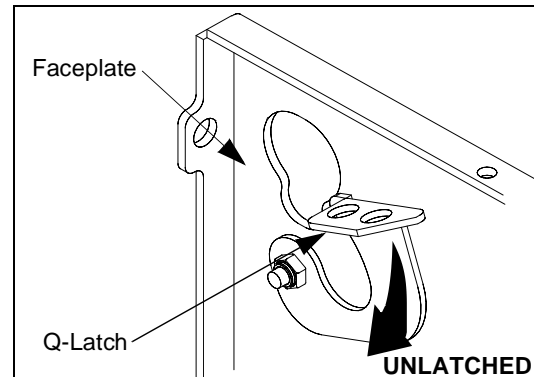

Figure 3: Q-Latch (Unlatched)
1. Make sure Q-Latch is in the UNLATCHED position (See Figure 3).
- UNLATCH Q-Latch (See Figure 3).